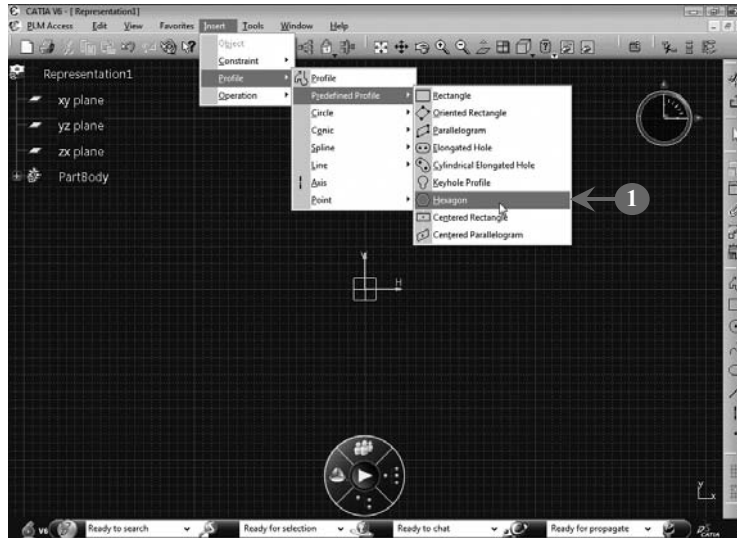

FIGURE 3.1
1. *Create* a sketch by selecting **Insert>Profile>Predefined Profile>Hexagon** in the Sketcher workbench, as shown in **Figure 3.1**: